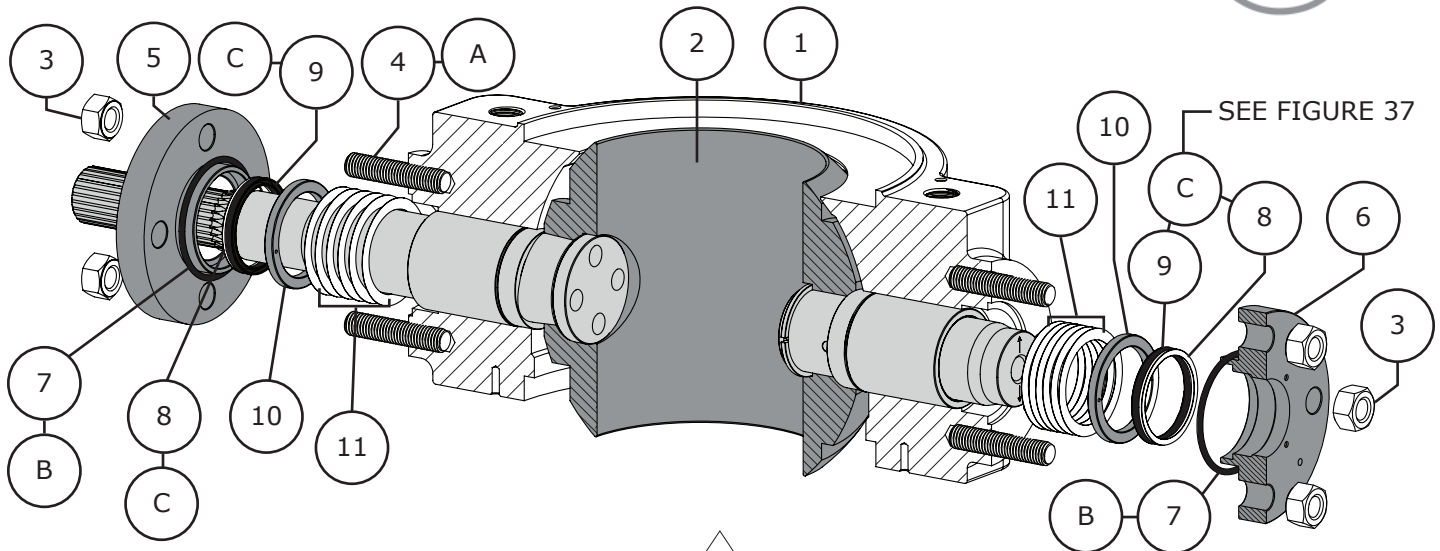

Figure 38 Shaft Seal Installation Diagram
- 6 Apply Dow Corning Molykote® 111 (Key B) to the seal protector o-ring (Key 29). Lay the o-ring into the valve body (Key 1) so that it rests on top of the shims (Key 31). Refer to Figure 38.